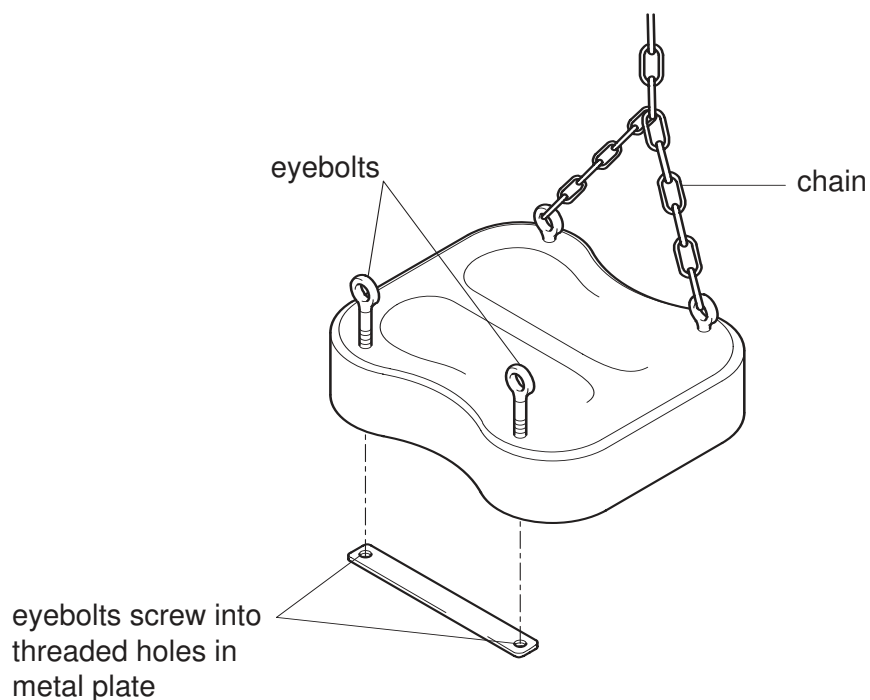

Fig. 5
- (c) The chain is attached to the swing seat using eyebolts and nuts. Destructive testing has shown that this method of fixing has resulted in the seat cracking. The four nuts are to be replaced by two metal plates into which the eyebolts screw. This proposed modification is shown in Fig. 5.